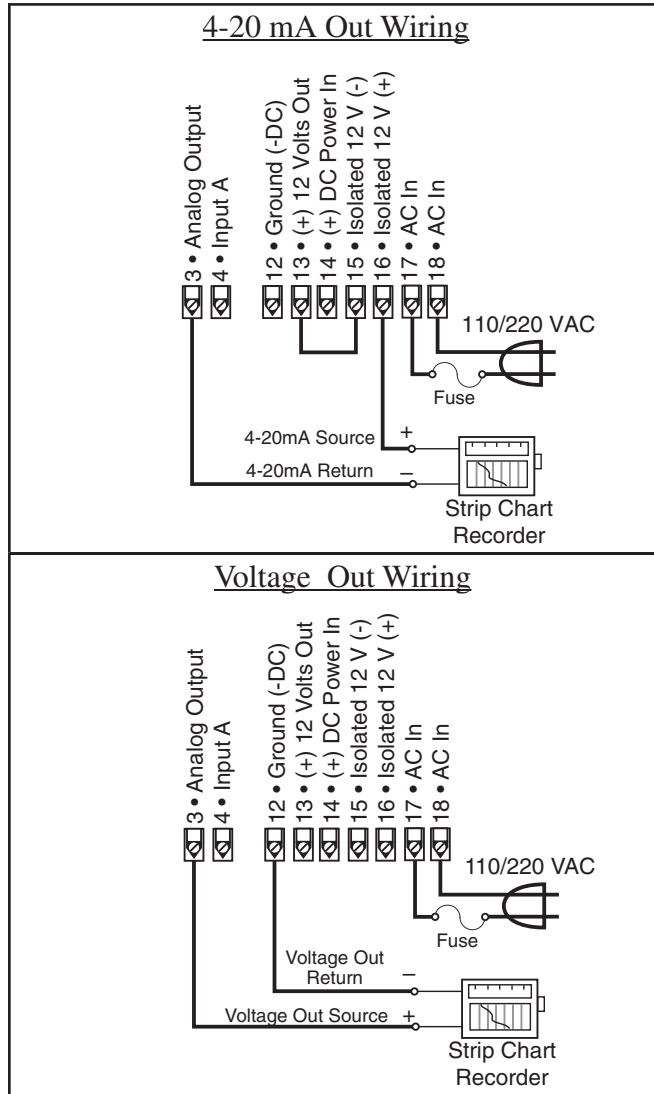

Figure 5-2.1
**Idea:** The Batcher can supply the 24VDC to power the current loop. (Connect pin 15 to 13, Pin 16 is now +24 VDC with respect to pin 12.) Connect Pin 16 to the + DC side of the external device and connect Pin 3 to -DC side of the external device (see Figure 5-2.1).